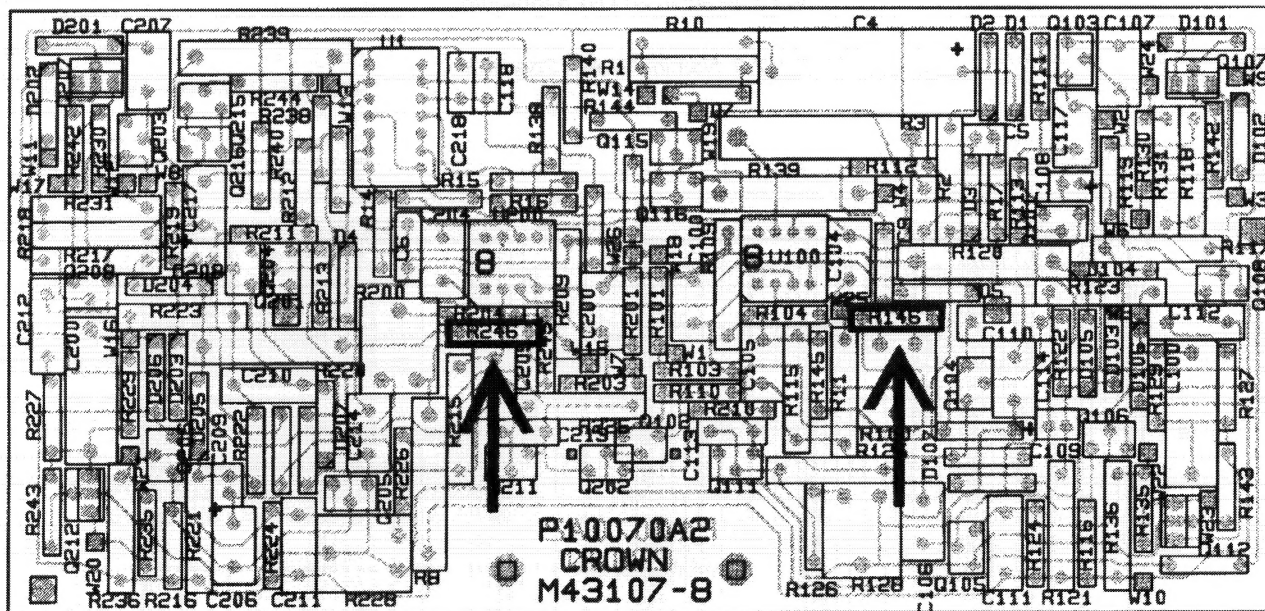

Fig. 8.1 Circuit Block Layout
3. Solder #22 buss wire jumpers at the locations marked R146 and R264 on the main circuit board. A board layout with the jumpers locations indicated is provided for easy reference (Figure 8.1).